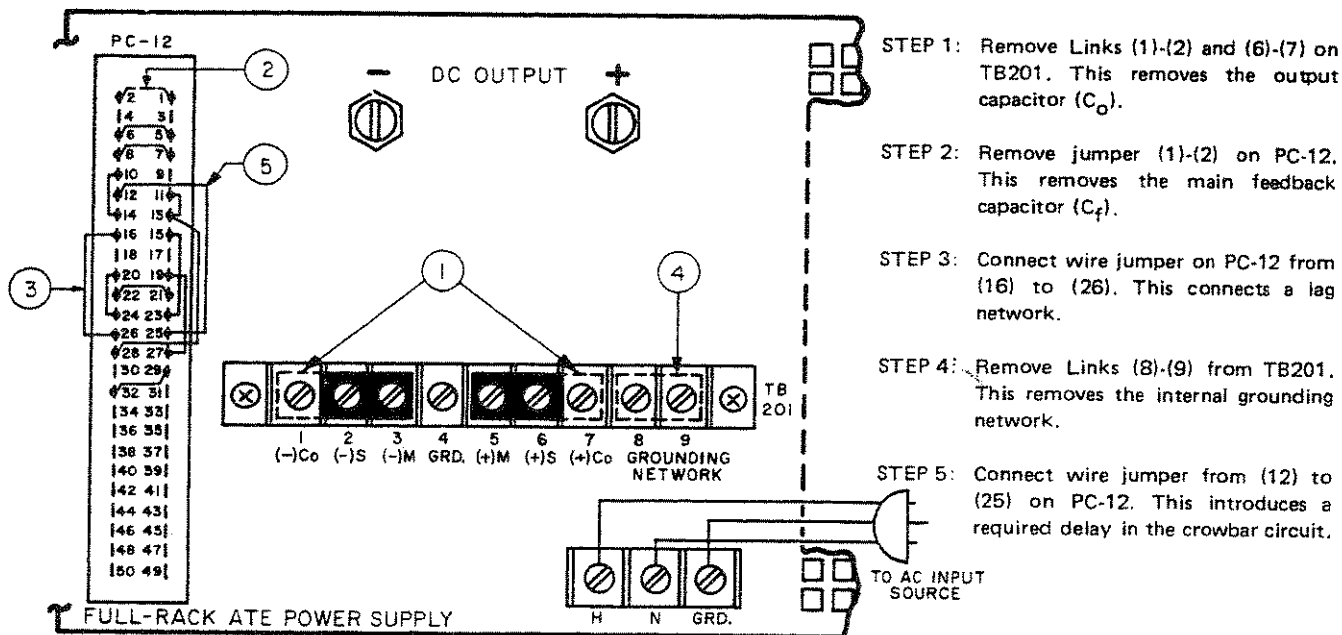

FIG. 2-5 REQUIRED STEPS FOR ATE "FAST MODE" CONVERSION.
- 2-17 MANUAL CHANGE-OVER, SLOW/FAST MODE. The ATE power supply is normally delivered for operation in the "slow" mode. By changing jumper connections at the rear of the power supply, the user can quickly convert from the "slow" mode to the "fast" mode or vice versa (See FIG. 2-5).